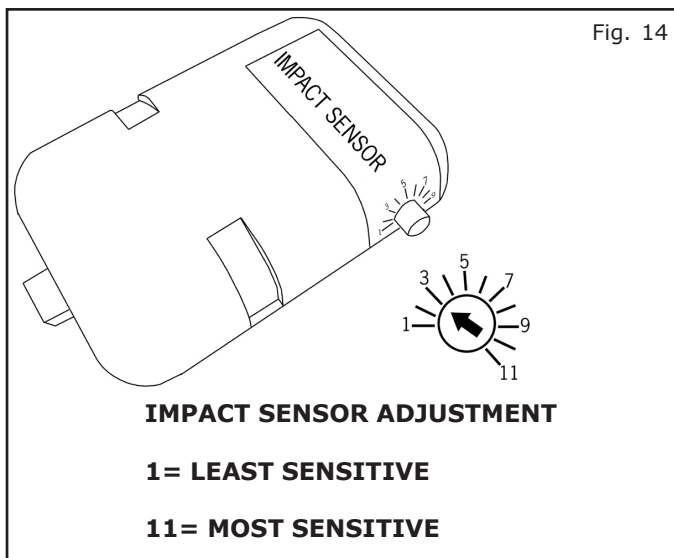

Fig. 14
- 1) In the event of customer complaint, Please use the following procedure. Fig. 14